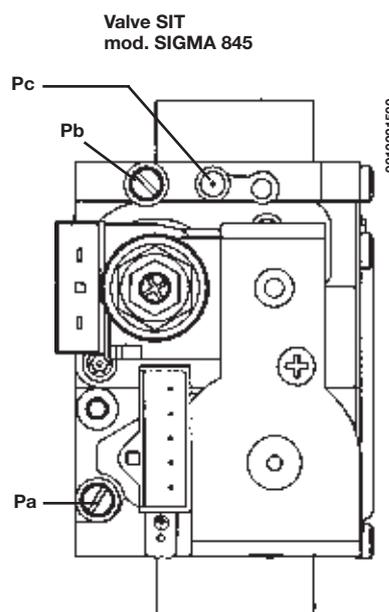
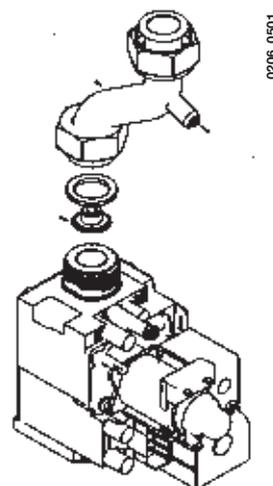

Figure 12a
Figure 12b (models 240 i - 240 Fi)
- remove the gas inlet hose (1 of Figure 12b);
- replace the diaphragm nozzle mounted on the gas valve (2);
- connect the positive pressure test point of a differential pressure gauge (possibly water-operated) to the gas valve pressure test point (**Pb**) (Figure 12a). For models 240 i/Fi use the pressure tap (3) in the gas inlet hose (figure 12b). Connect, for sealed chamber models only, the negative pressure test point of the manometer to a "T" fitting in order to join the boiler adjusting outlet, the gas valve adjusting outlet (**Pc**) and the manometer. (The same measurement can be made by connecting the pressure gauge to the pressure test point (**Pb**) after removing the front panel of the sealed chamber);
- check that the boiler feeding dynamic pressure, as measured at the inlet gas valve pressure test point (Pa) (Figure 12a) is correct (**30 mbar** for **butane** gas, **37 mbar** for **propane** gas or **20 mbar** for **methane** gas);